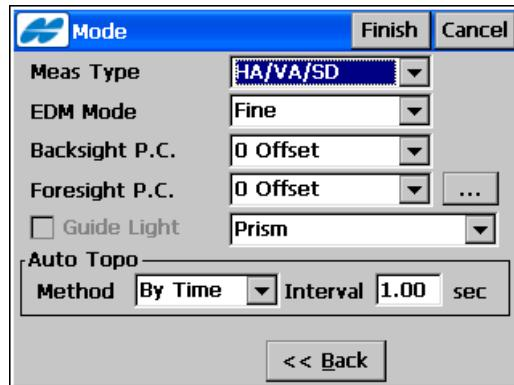

Figure 9-22. Mode Screen – Auto Topo Settings
- **Settings** – opens the **Mode** screen (see Figure 9-2 on page 9-2). Press **Next** to access the Auto Topo settings (Figure 9-22 on page 9-24):